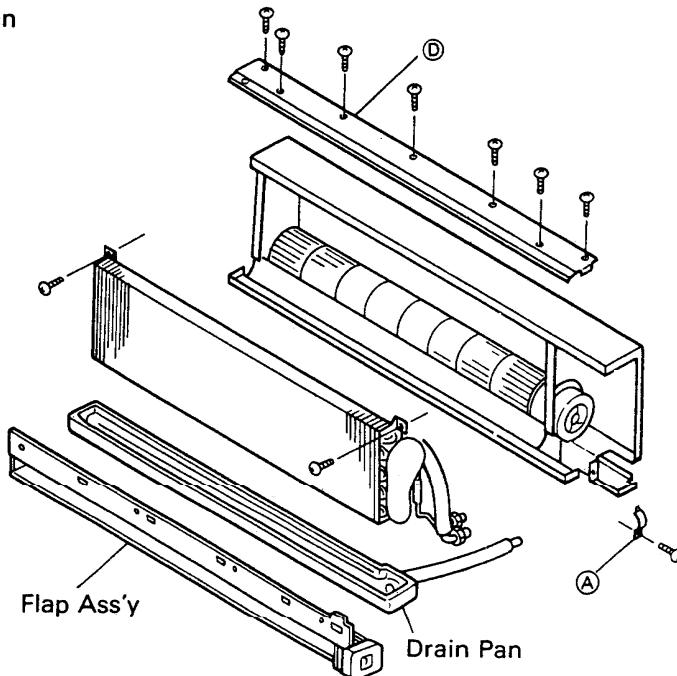

Fig. 6
- 5) The evaporator and drain pan can be pulled out after removing the screws shown in Fig. 6.